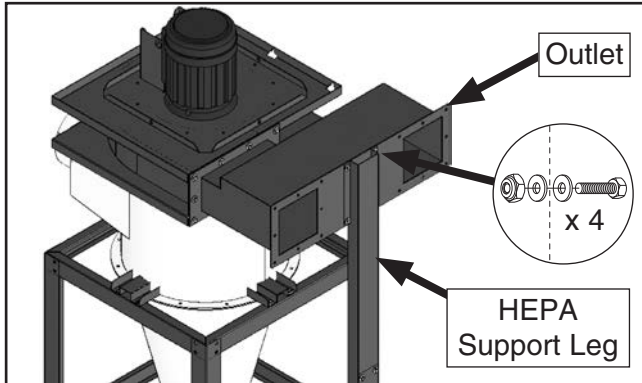

Figure 20. HEPA support leg attached to outlet.
19. Attach support leg assembly to outlet (see **Figure 20**) with (4) $\frac{3}{8}$ "-16 x 1" hex bolts, (8) $\frac{3}{8}$ " flat washers, and (4) $\frac{3}{8}$ "-16 lock nuts.